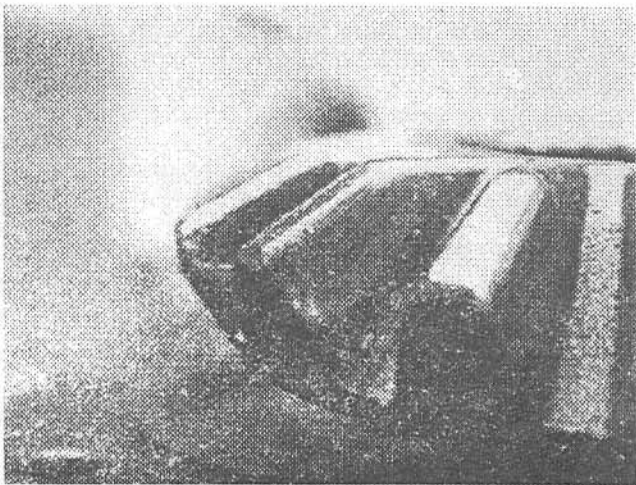

Figure 6
c) Heavily used side gear (Figure 6). Note the depression worn in the sides of the teeth, tops "rolled" smooth, and highly polished surfaces. Will not function— should be replaced.